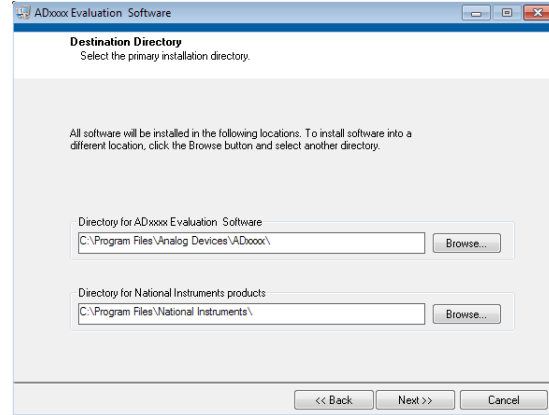

Figure 3. Destination Directory Window
4. Select a location to install the software, and then click **Next** (see Figure 3).